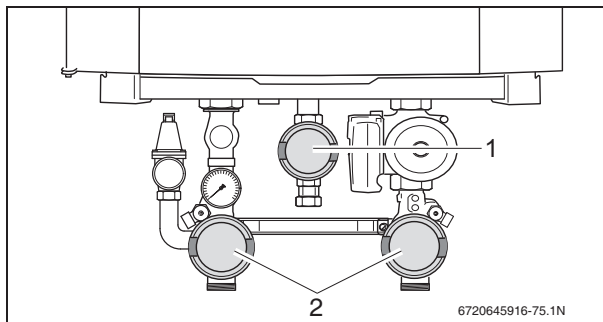

Fig. 77 Closing the valves (here: in closed position)
- Close the gas valve (fig. 77, [1]).
- Close the isolating valves (fig. 77, [2]).